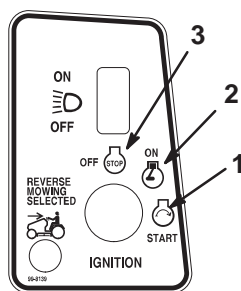

Figure 9
5. Turn the ignition key clockwise and hold it in the Start position (Fig. 9). When the engine starts, release the key.
2. Turn the ignition key to Off and remove the ignition key (Fig. 9).